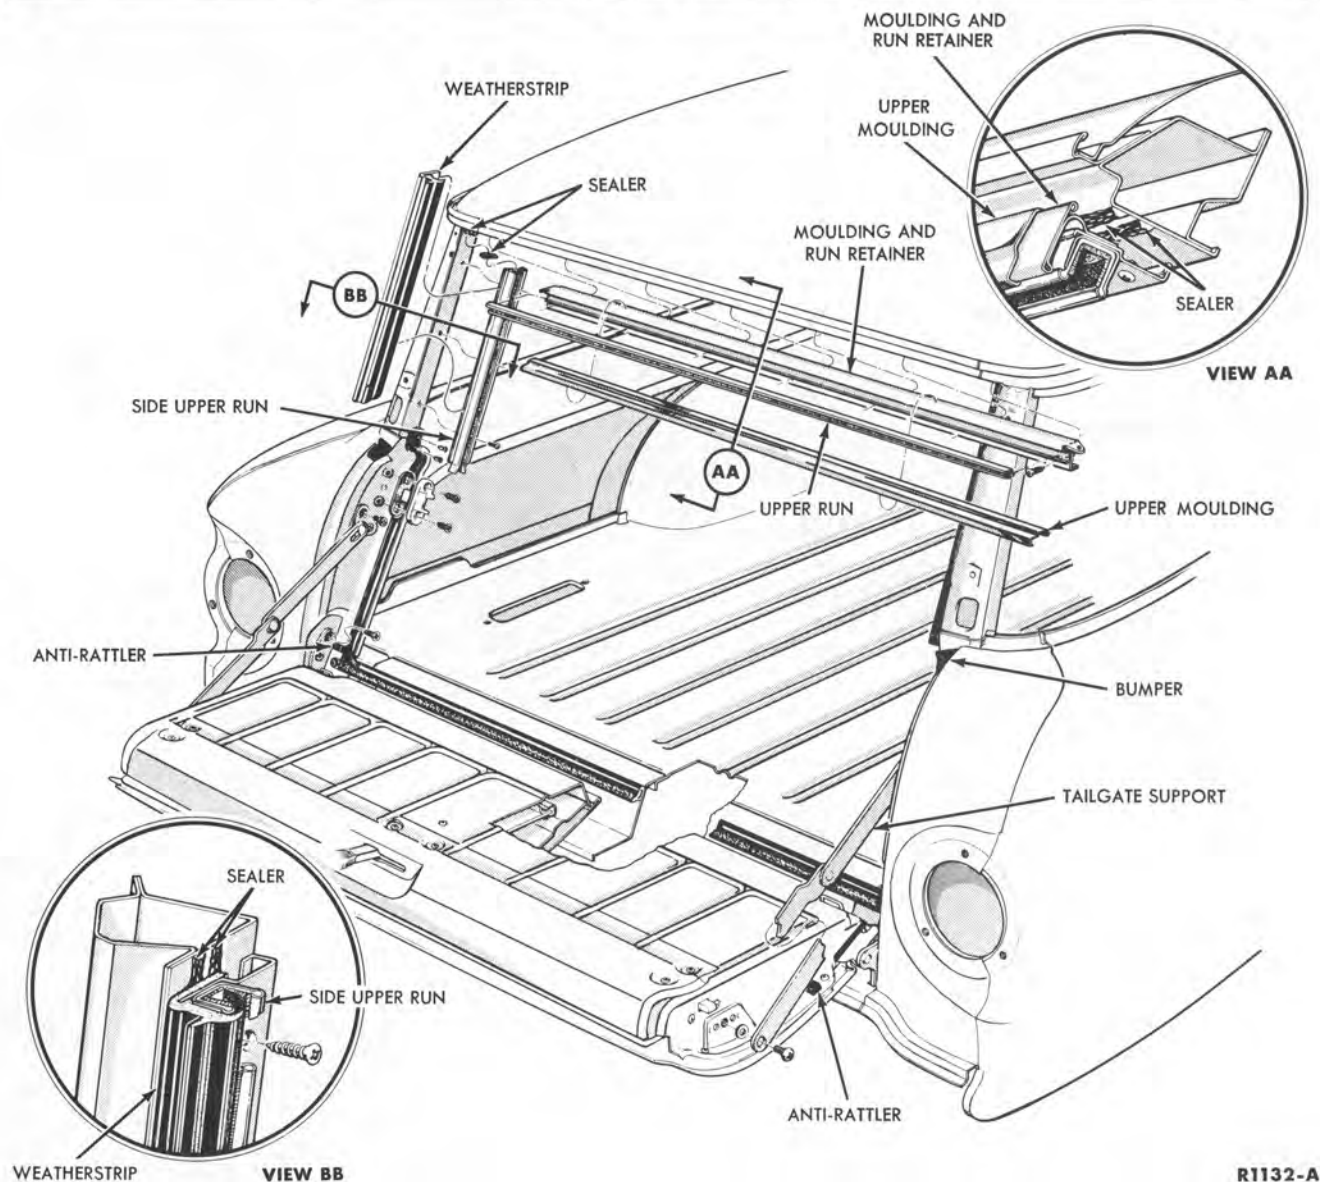

FIG. 28—Tailgate Assembly and Weatherstrip
2. Remove the nuts retaining the pillar outside moulding studs to the pillar and remove the pillar outside mouldings (Fig. 28).